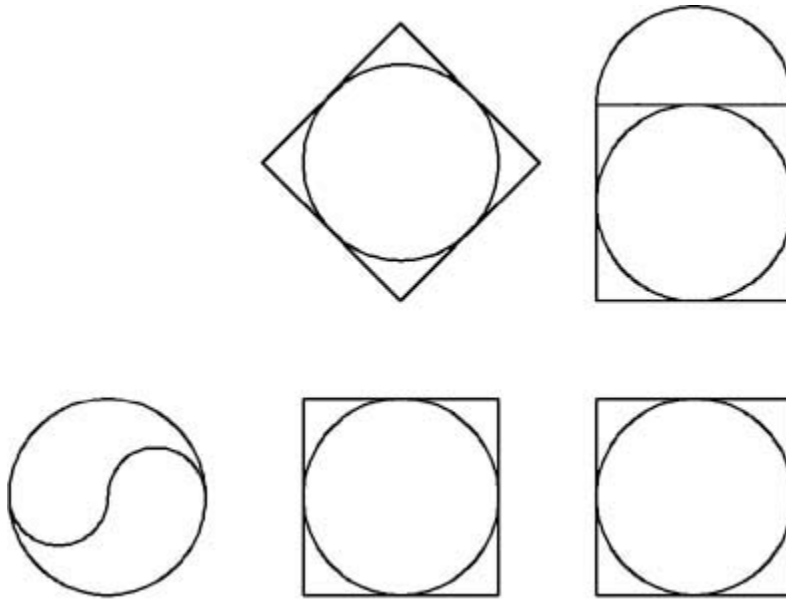

Figure 4-25
- 12** Drag the cursor to the right and type **1<Enter>** to specify the right quadrant of the circle. AutoCAD places the arc tangent to the first arc. Your drawing should look like Figure 4-25.